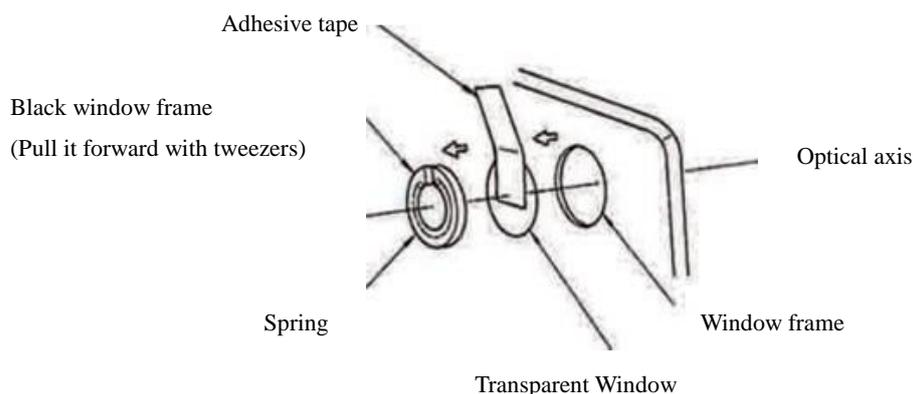

Figure 4-8 Removal of Sample Compartment Window Plate
- (1) When cleaning lens, only need to clean the face towards sample compartment, for the other face is sealed and need not to be cleaned.
- (2) Try not to remove lens or lens assembly to avoid optical path deviation.
- (3) When cleaning window plate, only need to clean the face towards sample compartment, for the other face is sealed and need not to be cleaned.
- (4) Window plate must be removed for clean, shown as Figure 4-8.
- (5) During clean and removal process, do not leave fingerprint on window plate or lens.